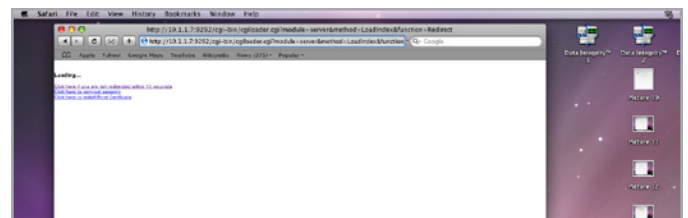

Fig. 70 - Mac screen: Loading
5. Wait for a few seconds to be directed to the embedded Storeview module and to start managing your storage (Fig. 70).